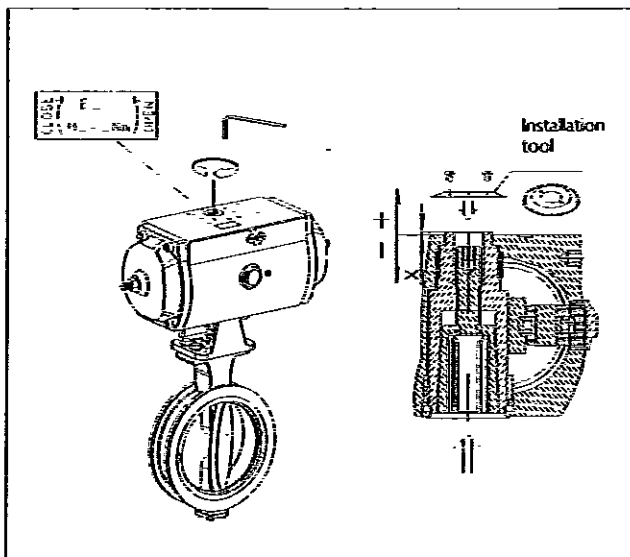

Fig. 22. Tightening of the cone bushing
- The actuator construction allows axial movement of the drive shaft. Check, before the screw is tightened, that the drive shaft is in the upper position of its axial movement, which is its normal position (the mounting position shown in Fig. 22). Checking is important, as the actuator shaft drops down slightly when the screw is tightened. The drive shaft axial movement can be
observed and measured before attachment to a valve. The actuator drive shaft is in the upper position when its upper surface conforms to Table 6 (see Fig. 22).
- The drive shaft will automatically find its correct position when the tightening screw is tightened, if the installation tool is used (see Figure 22). The installation tool is attached instead of the coupling plate using M4 screws with the drive shaft in upper position (before the valve is installed). Tighten the screws in such a way that the tool is tightened against the upper surface of the housing.